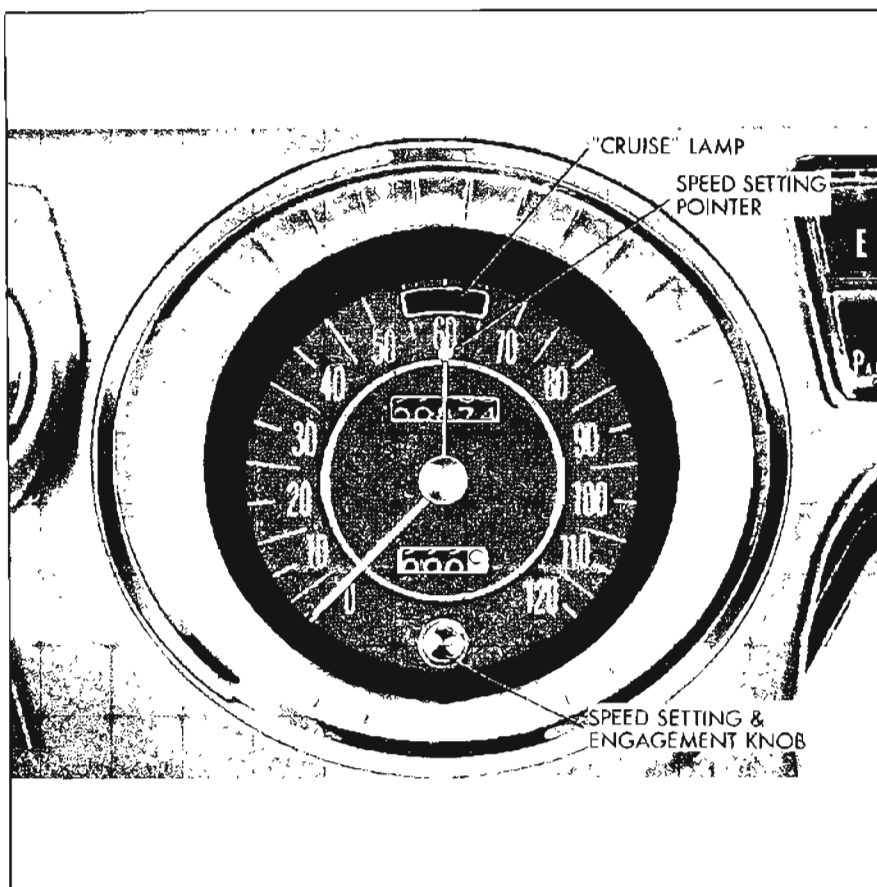

Figure 11-171—Electro-Cruise Controls - 45000, 46000 and 48000 Series
1. SPEED SETTING - The speed setting pointer moves over the existing speedometer scale and is set to the desired speed by rotating the speed setting knob at the bottom of the speedometer. See figures 11-171 and 11-172. The desired speed can be set either with the system engaged or disengaged; however, car speed will only be controlled by the Electro-Cruise when the system is engaged. If the speed setting is changed while the system is engaged, car speed will increase or decrease automatically to coincide with the desired setting.